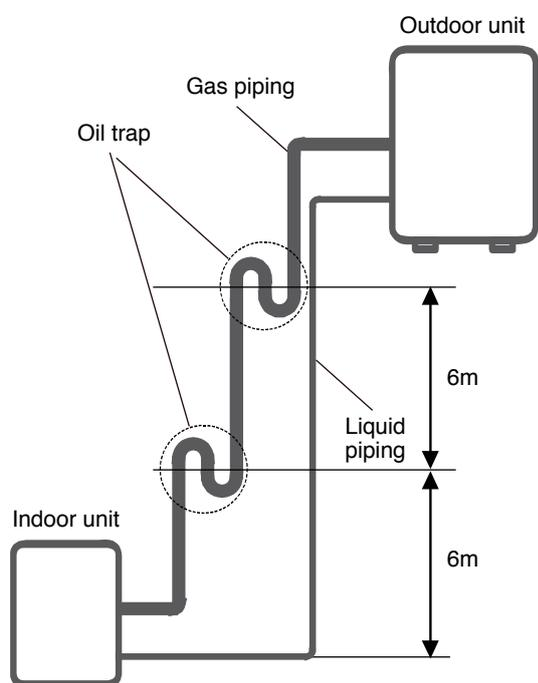

Fig. 7.2
– It is recommended that vertical suction risers not be upsized. Proper oil return to the compressor should be maintained with suction gas velocity. If velocities drop below 7.62m/s, oil return will be decreased. An oil trap should be installed every 6m of vertical suction line riser. (See Fig. 7.2)